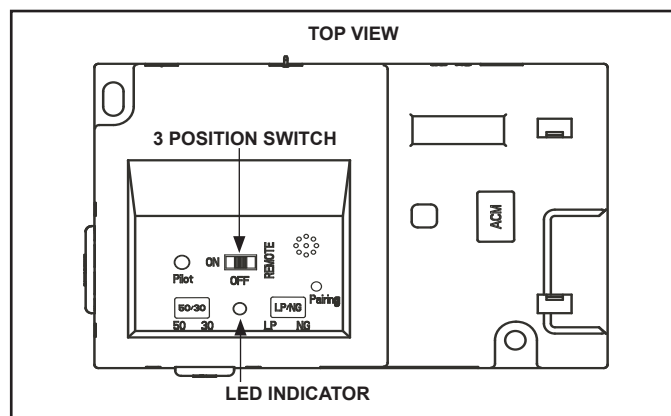

Figure 3.6 IFT-ECM
The IntelliFire Touch intermittent pilot ignition system comes with a battery backup system that enables the system to operate in a power outage. The system offers seamless transition from household AC power to battery backup. A factory-installed battery pack is located in the control cavity of the appliance. See Figure 3.6. Battery longevity and performance will be affected by long term exposure to the service temperatures of this appliance.
1. The Electronic Control Module (IFT-ECM) has a three-position ON/OFF/REMOTE selector switch that must be set for proper operation. See Figure 3.6. When changing switch positions, it is important to pause in each position for 1-2 seconds.
- Locate reset switch inside the appliance. See Figure 3.6. Hold reset switch down for one second and release. A “beep” will signal module is reset.